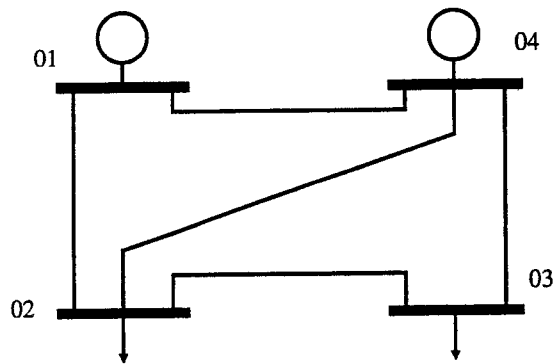

Figure 6.1: A four-bus power system
- (c) A power four-bus power system shown in Figure 6.1 has two load buses (bus 2 and 3) and two generator buses (bus 1 and 4). The bus voltage and angles in bus 1 to 4 are  $V_i \angle \theta_i$ ,  $\forall i = 1$  to 4. The load bus powers are  $P_2, P_3, Q_2, Q_3$ , the generator output powers are  $P_1$  and  $P_4$  respectively. The lines have finite resistances and reactances. Each load is connected to load bus through on-load tap-changing transformers (OLTC) with tap positions  $t_1$  and  $t_2$ . The objective  $f(\mathbf{x}, \mathbf{u}, \mathbf{p})$  is to minimize total transmission losses in the network. List the state( $\mathbf{x}$ ) and control( $\mathbf{u}$ ) variables and fixed parameters( $\mathbf{p}$ ). [7]